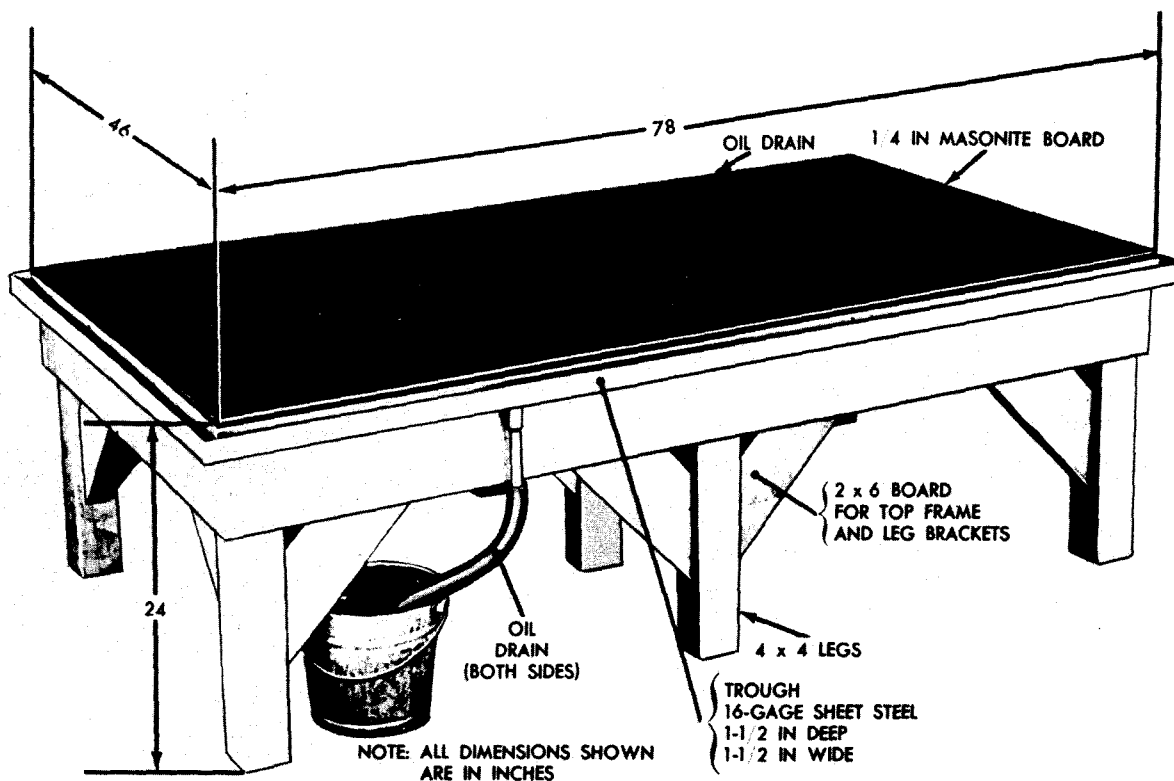

Fig. IV-5. Transmission disassembly and assembly table
(1) Proper hand tools and receptacles for small parts.
(2) A suitable hoist, 1-ton capacity.
(3) An arbor press.
(4) A disassembly and assembly table is essential for proper and efficient performance of overhaul procedures. A table suitable for this purpose is shown in fig. IV-5.
(5) A container for cleaning parts and a supply of mineral spirits or dry-cleaning solvent.